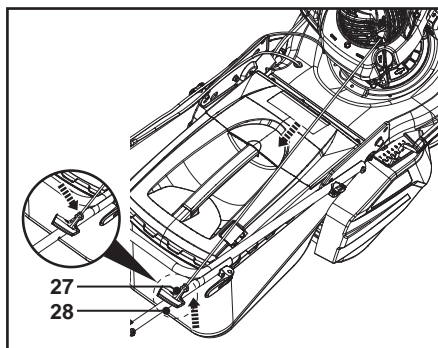

Fig. 14
3. Always rest the recoil starter handle (28) onto the hook (27) located on the right-hand side of the upper handle bar (1) (Fig. 14) when the recoil starter is not operated.